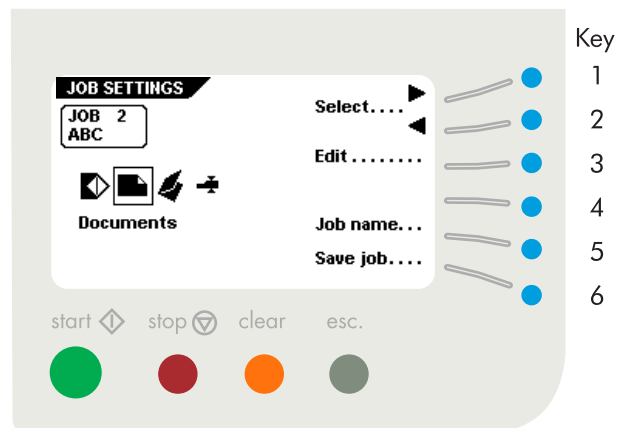

Fig. 35
After confirmation (key 6) in the "create job" or "edit job" menu, the display shows the "job settings" menu as shown in fig. 35. The "job settings" menu shows the following functions:
- select a setting menu by pressing key 1 or 2.